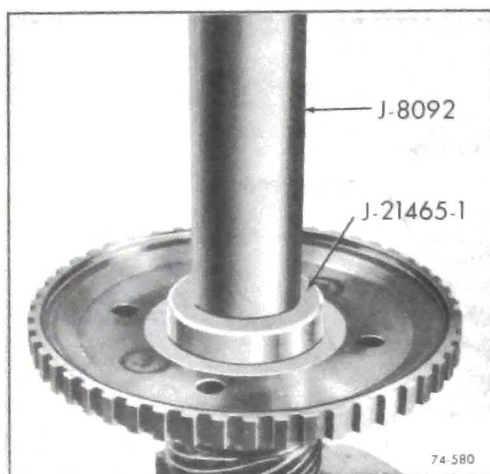

Figure 76-580
b. Using Tool J-21465-1 install bushing. See Figure 76-580.